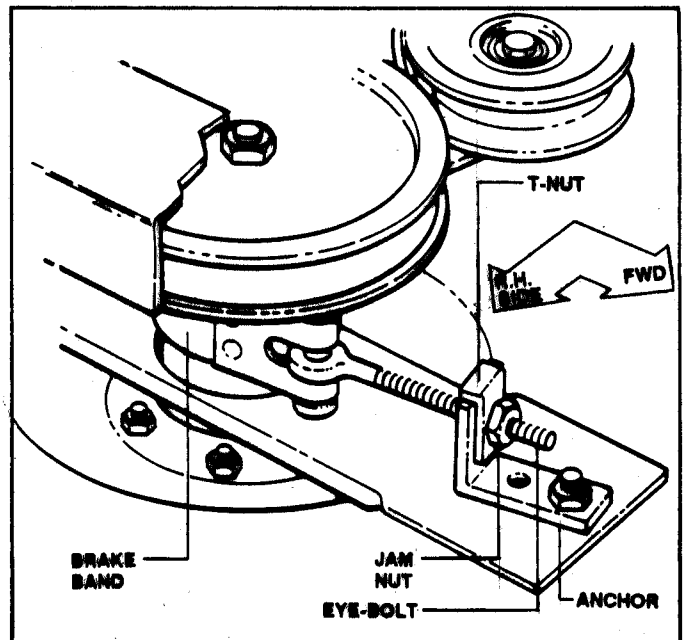

FIGURE 22
5. Tighten BRAKE BAND by loosening jam nut and turning T-nut, on end of eyebolt, clockwise 1 to 2 turns, or until brake band tightens. Make sure flanged lip on T-nut is positioned vertically to fit over top edge of anchor. See Figure 22.